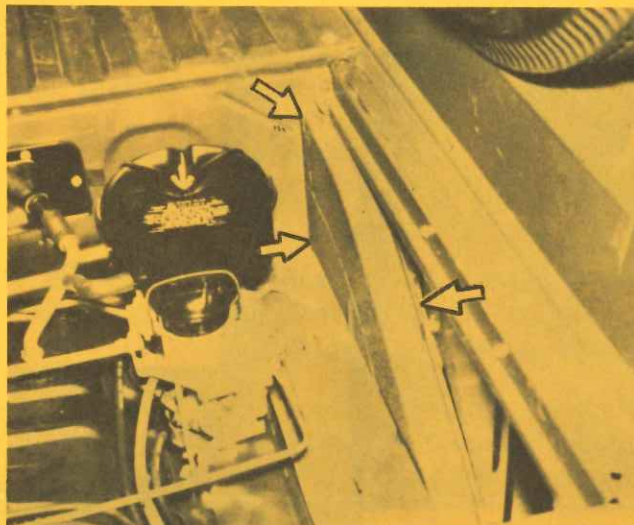

FIGURE 5
5. Inspect engine compartment for leak locations and seal with non-hardening sealer where necessary. Figure 5 shows three locations on each side of the engine compartment which are likely sources of dust leaks.